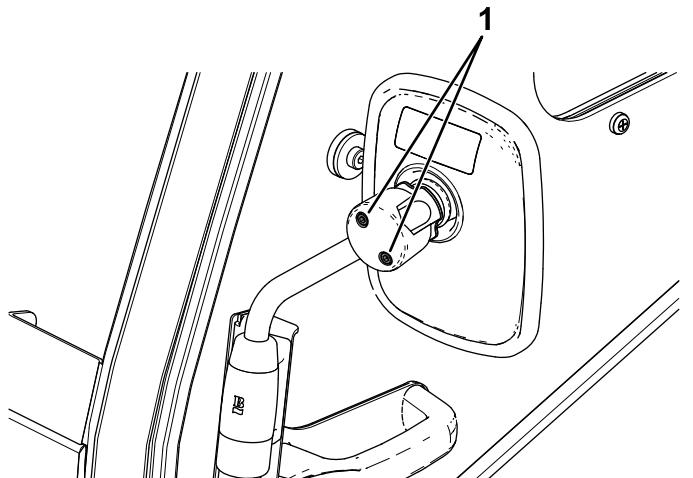

Figure 7
9. Tighten the screws on the back of the mirror to secure the mirror to the mirror arm (Figure 7).